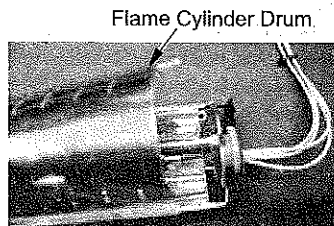

Figure 8 - Flame Generation Cylinder Drum
5. Locate flame generation cylindrical drum, figure 8.